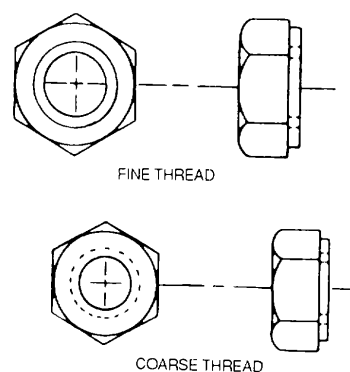

Figure 2-25. Light Hexagon Nuts
e. *Light Hexagon Nuts.* Use MS35649, MS35650, and MS35690 light hexagon nuts, as shown in figure 2-25, in miscellaneous nonstructural applications. An auxiliary locking device should be used with these nuts.